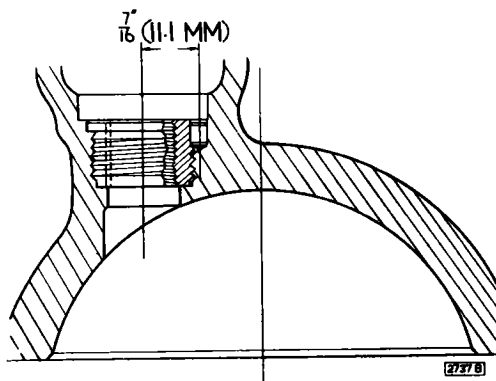

Fig. 56. Fitting the screwed insert.
- Drill and ream a $\frac{1}{8}$ " (3.17 mm.) diameter hole $\frac{3}{16}$ " (4.76 mm.) deep between the side of the insert and the cylinder head as shown in Fig. 56.
- (e) Drive in the locking pin and make sure that the pin is below the surface as in Fig. 56.